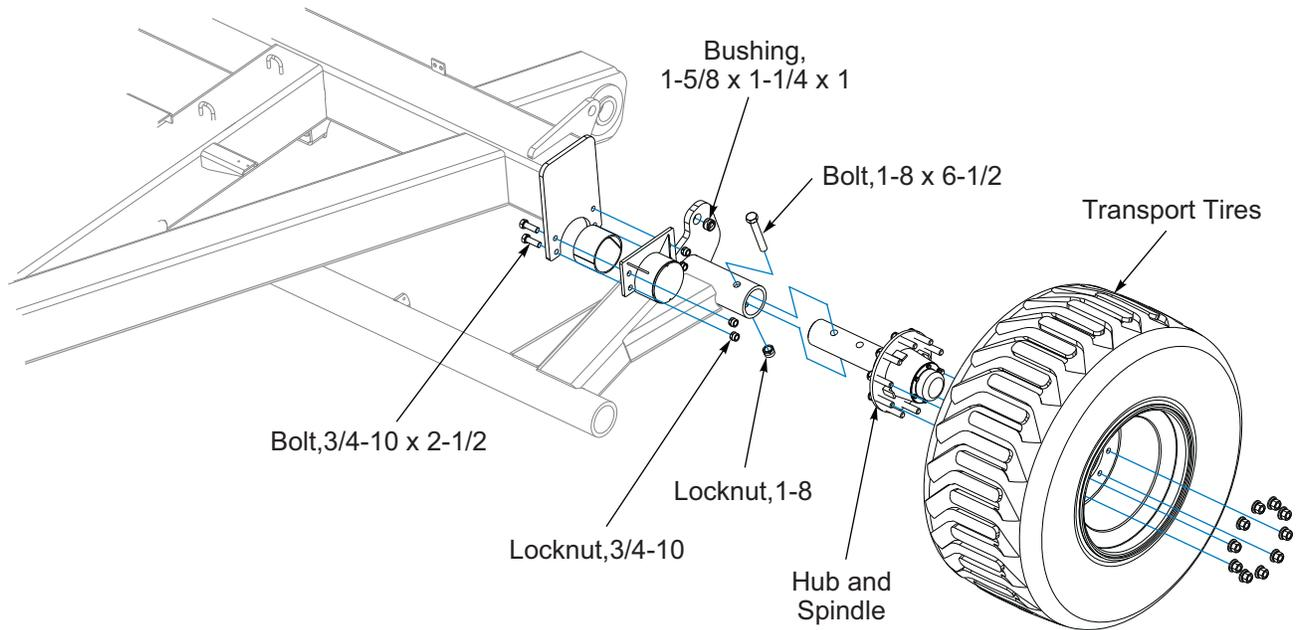

Figure 3-2: Tire and Wheel Installation
1. Install the main wheels and tires to the hitch rockshaft hubs. *See Figure 3-2.*